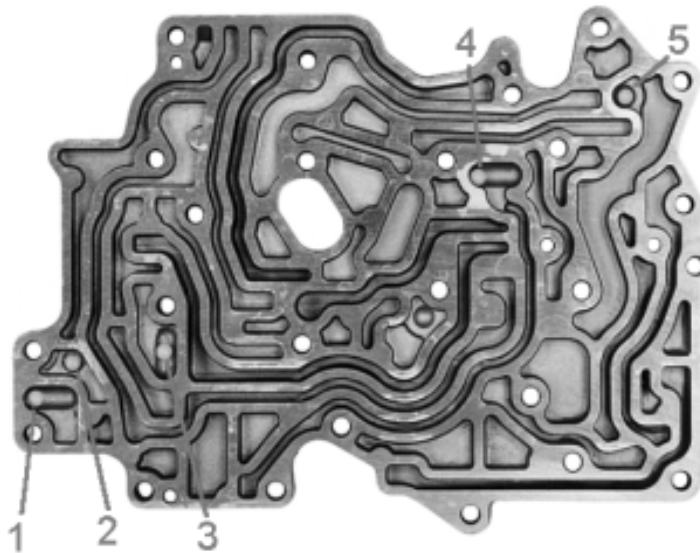

Figure 8.46 Position of upper valve and detection ball
- o. Install 5 nylon balls on the upper valve, shown as Figure 8.46. Install the upper valve shim; install the separating disk on the upper valve.